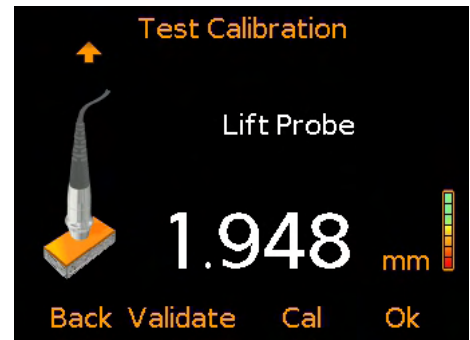

Figure 21
- 3 Place the probe on to the coated sample, ensuring that it is flat against the surface. The display will show a thickness value which is constantly updating (Figure 21).